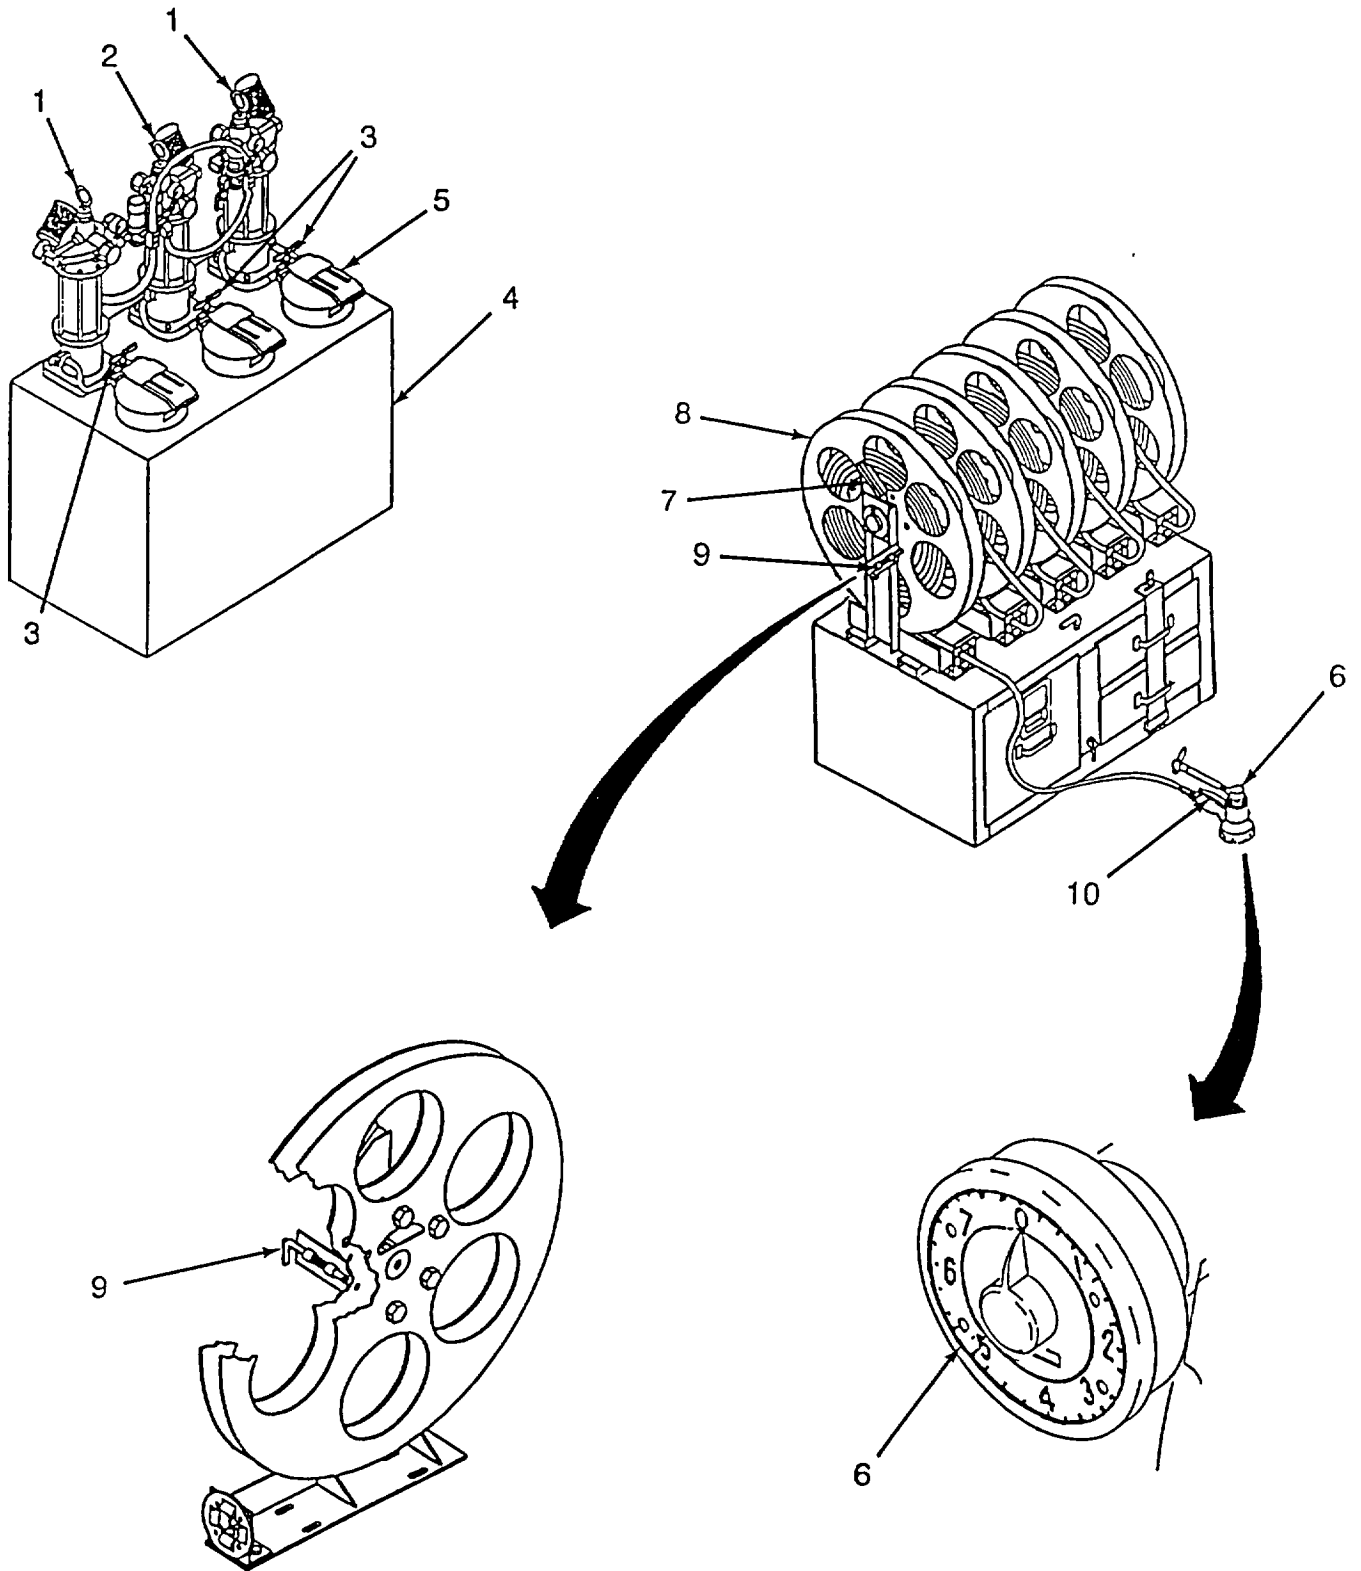

Figure 2-28. Pumping Lubricants
e. PUMPING LUBRICANTS (Refer to Figure 2-28.)